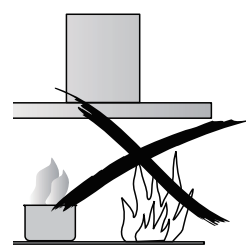

Fig. 2
- ⊘ Do not leave lit gas burners exposed due to the risk of fire. (Fig 2)